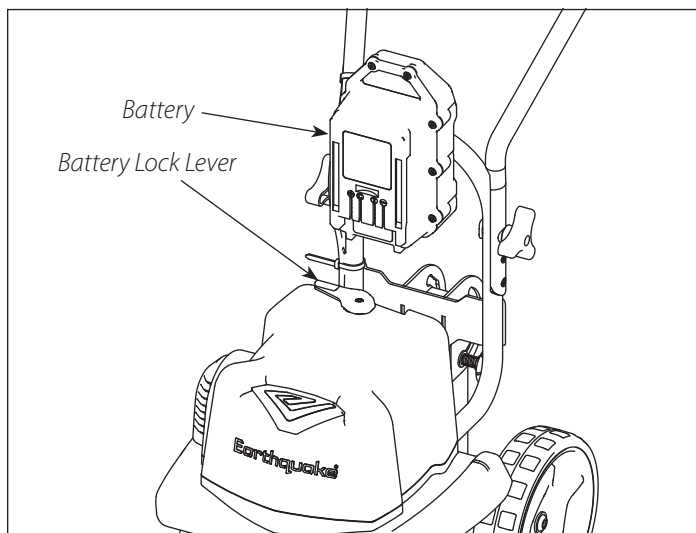

Figure 1
**NOTE:** The battery lock lever must be in the unlocked position before the battery can be slid onto the powerhead. SEE FIGURE 1